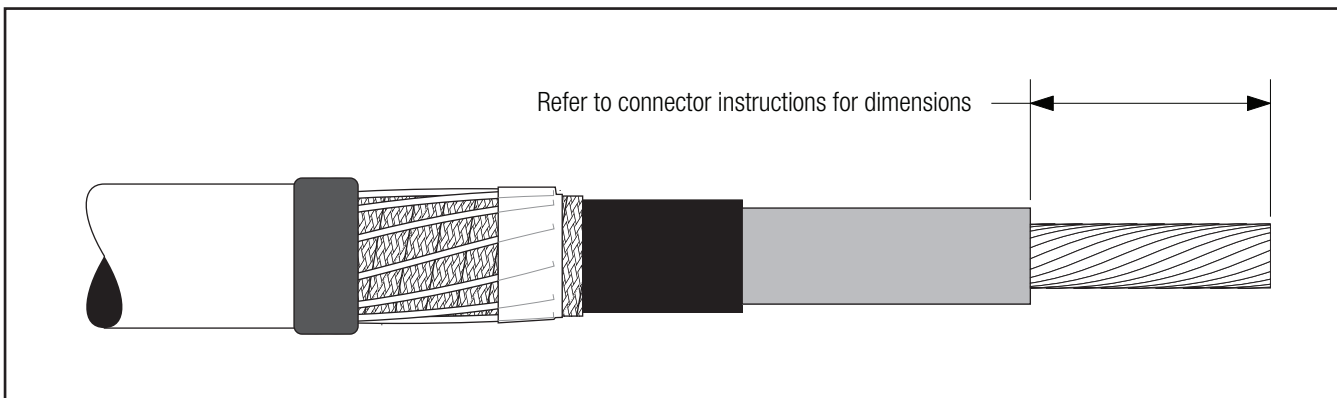

Figure 7
- 3.1** If using a 3M Shearbolt Connector QCI 350-750, refer to the instructions included with the connector for insulation cut-back dimension. Insulation removal length shall not exceed 3 1/2" (89 mm) from conductor end (*Figure 7*).